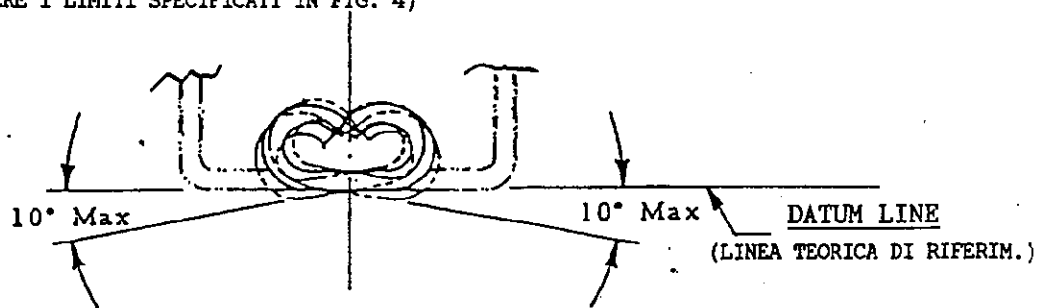

Figure 4
- Twist or roll of the crimped contact shall not exceed the limits specified in Figure 4. (LA "TWISTATURA" DELL'AGGRAFFATURA RISPETTO AL CORPO TERMINALE NON DEVE ECCEDERE I LIMITI SPECIFICATI IN FIG. 4)